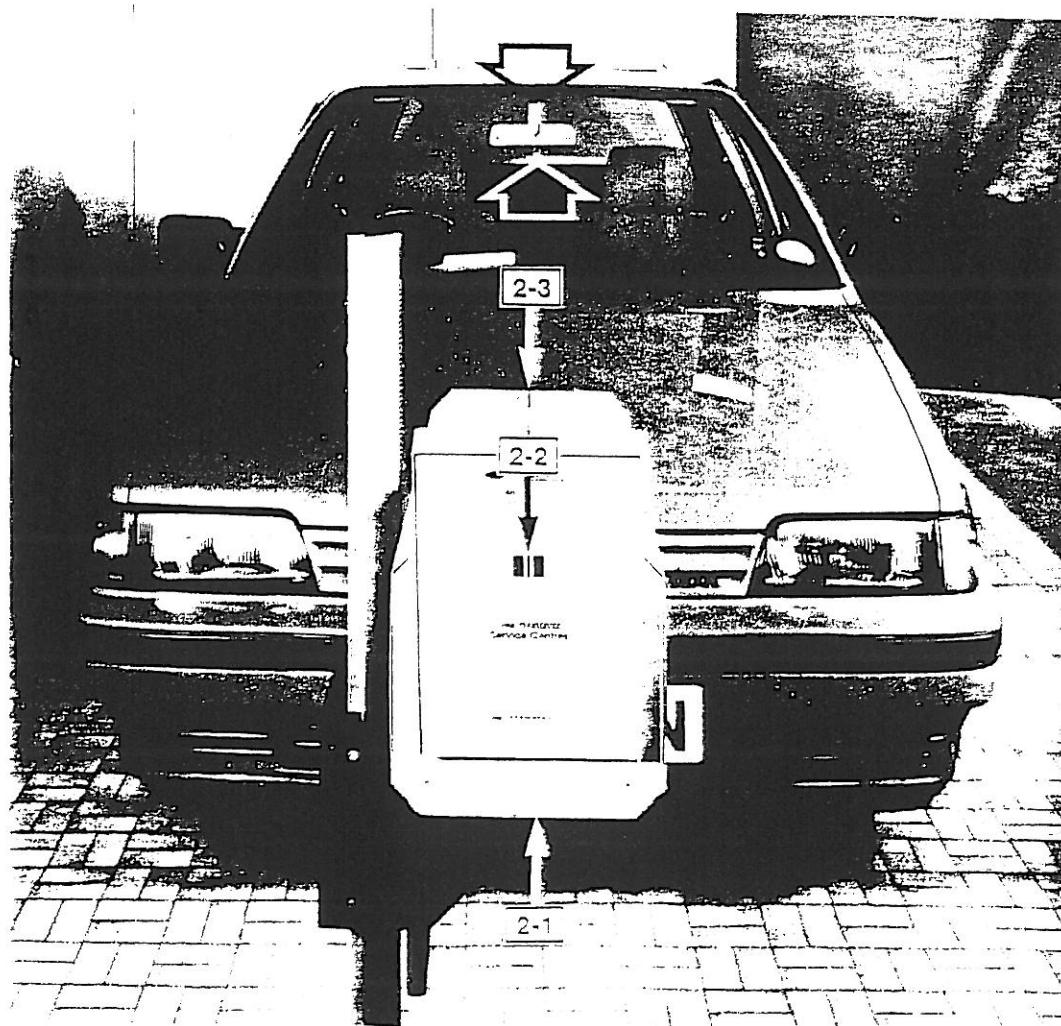

FIG. 2
3. Move the aligner along the rails until the body of the aligner is in line with the two selected points. Raise or lower the aligner as necessary so that the two selected points can be seen when looking through the backsight of the aligner. Release the clamping knob (Fig. 2-1) and by turning the aligner body from left to right, align the backsight (Fig. 2-2) and foresight (Fig. 2-3) on the headlamp aligner with the two selected points on the vehicle arrowed in Fig. 2.